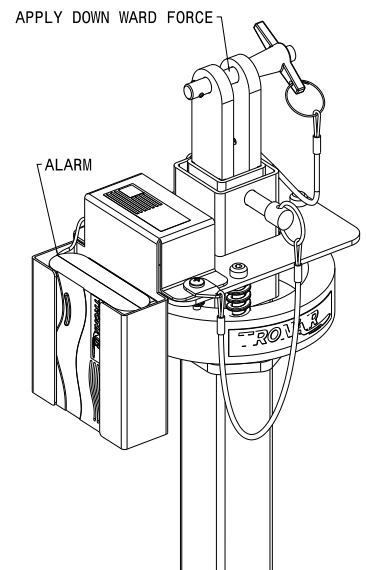

FIGURE 3
2. Test alarm by slowly applying a force evenly distributed across the top of the cradle. The cradle head will lower and engage a limit switch. A loud pulsating alarm will then sound when the force reaches between 100 to 150 pounds (45.36 to 68.04 kg). If alarm does not sound, refer to the Troubleshooting section. **Reference Figure 3**